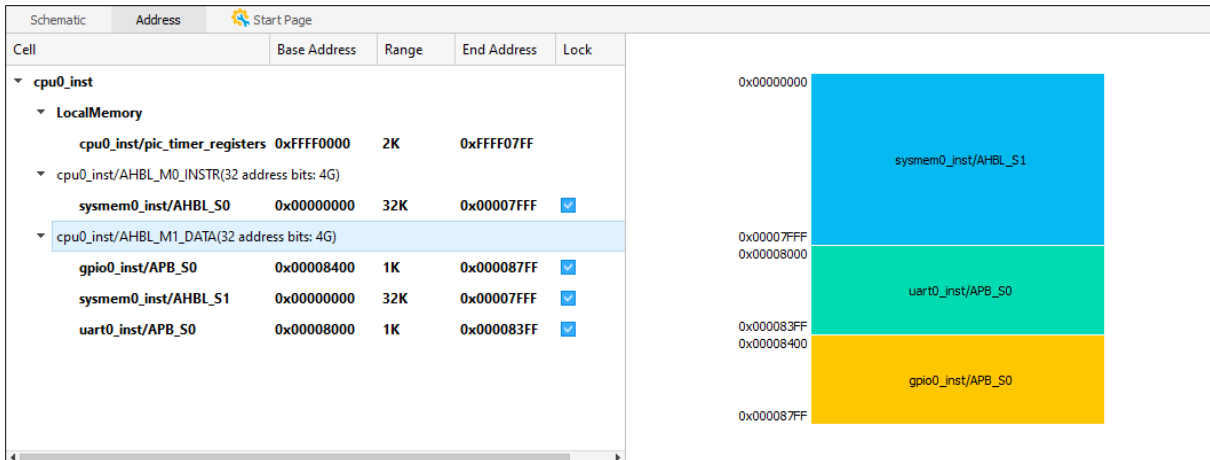

Figure 2.125. Address View
1. In the Propel Builder main window, click the Address tab. The Address view (Figure 2.125) shows.